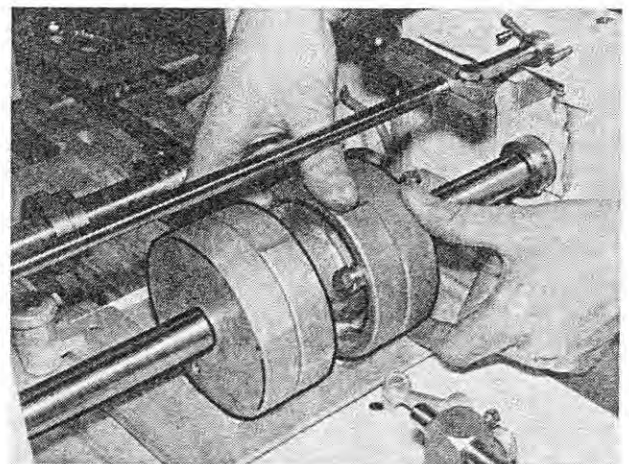

Fig. 164
3. Turn the inside segment to the mark which corresponds to the format (Figure 164). Tighten the clamping screw.